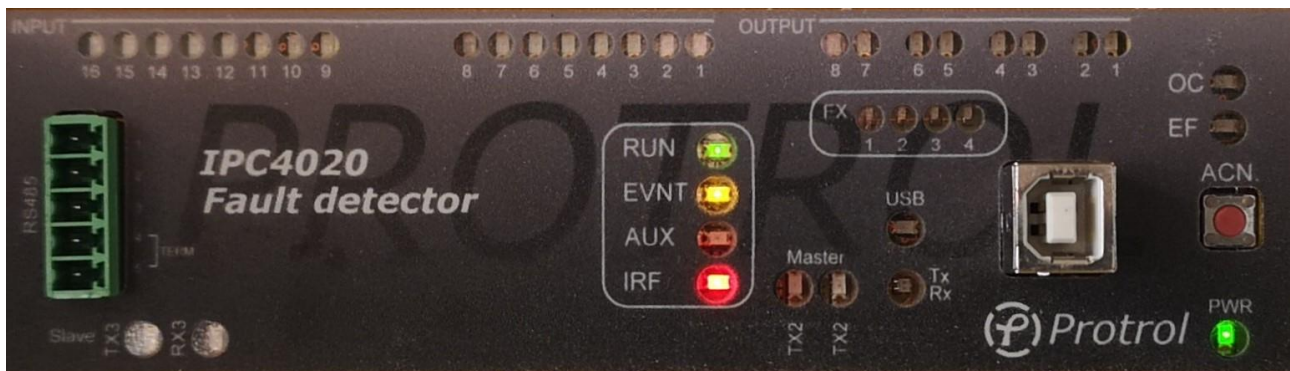

Figure 3: IPC4020 – front panel.
- Connect phase (L) to the lower side of X4.1 and neutral (N) to the lower side of X4.2.
- Close the terminal block X4.2 (N) and continue with X4.1 (L).
- Verify that IPC402x starts up. The PWR LED should light up immediately (Figure 3). After a few seconds the RUN diode shall flash with 0.5 Hz frequency. If not, check that the fuses for 24 VDC at group X5 are mounted and not broken.